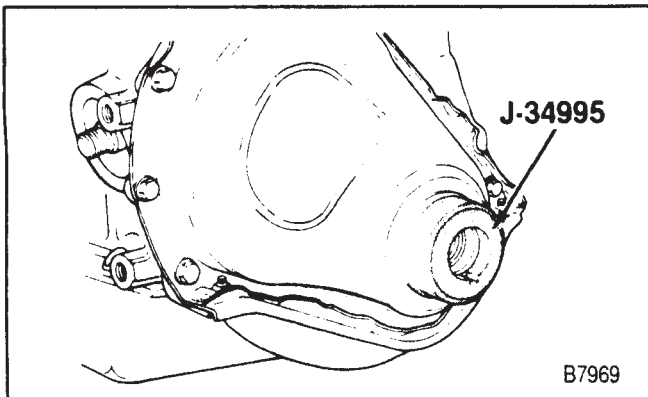

Figure 15—Installing the Timing Gear Cover
- Bolts (96) to 34 N.m (26 ft. lbs.).
2. Crankshaft front oil seal. Use J 34995 (figure 15).
4. Bolt (98).
- C. Leave the tool in position in the seal (figure 15).
2. Timing gear cover (with J 34995 in place) to the block (figure 15).